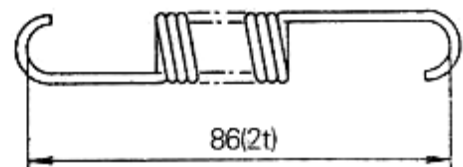

Fig 6-16
(7) Measure the free length and installation load of return spring for top rod (Fig 6-16). (Refer to Part 9 of Fig 6-2)